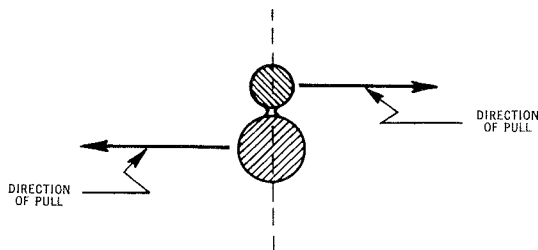

Fig. 4
5.03 To separate the support wire from the conductor at terminating locations or for making building runs, slit the web for approximately 2 inches using diagonal pliers. To complete the separation, pull the support wire and conductors in a slow, steady manner in opposite directions; at right angles to the major cross-sectional axis of the wire (See Figure 4).